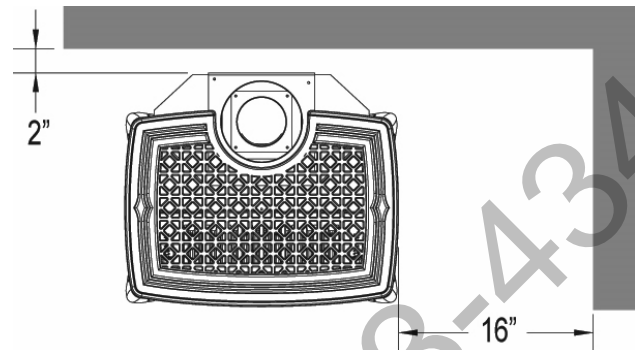

Figure 14 - Minimum Wall Clearances
4. Pull forward and disengage the spring clips securing the top of the glass frame. *See Figure 14.* Tilt the top of the glass frame outward and lift it off the studs on the bottom – set carefully aside.